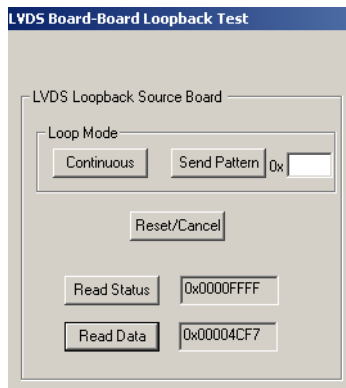

Figure 2-16. LVDS LoopBack Test Status
A passing status is indicated by a Read Status of 0x0000FFFF. See Figure 2-16. A non-zero result in the first four nibbles or a zero in the last four nibbles indicates failure (e.g., 0x1000EFFF indicates a failure in bit 12).
4. **If you click the Continuous button in the LVDS Loopback Source Board portion of the LVDS Board-Board Loopback Test window, a Linear Feedback Shift Register (LFSR) continuously generates pseudo-random data and transmits it to the VHDM connector.** See Figure 2-16.
5. **To terminate a continuous test, click the Reset/Cancel button.** See Figure 2-16.